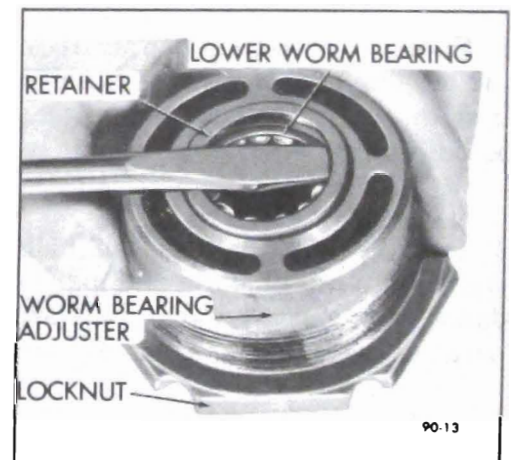

Figure 90-6 Removing Lower Worm Bearing Retainer
9. Remove lower worm bearing from adjuster by prying retainer out with a screwdriver. See Figure 90-6.
10. Remove ball return guide clamp and guides from ball nut. Turn ball nut over and rotate worm shaft back and forth until all balls (50) drop out into a clean cloth. Remove ball nut from worm shaft.